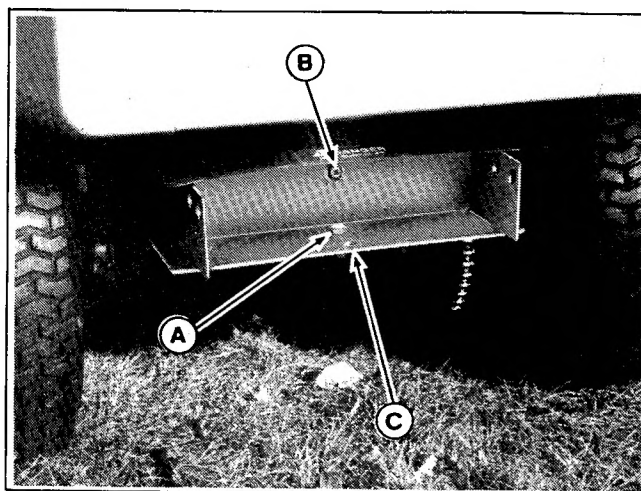

Figure 3.
2. Install the bracket to the drawbar with the 3/8-16 x 1 hex bolt (A, figure 3) lockwasher, and nut.
3. Install the bracket to the backplate by inserting the 5/16-18 x 2-1/2 hex bolt (B) from the inside out, through the backplate, 3/8 inch long spacer, and bracket. Secure with 5/16 flat washer, lockwasher and nut.
4. Drawbar hole is item C, figure 3.